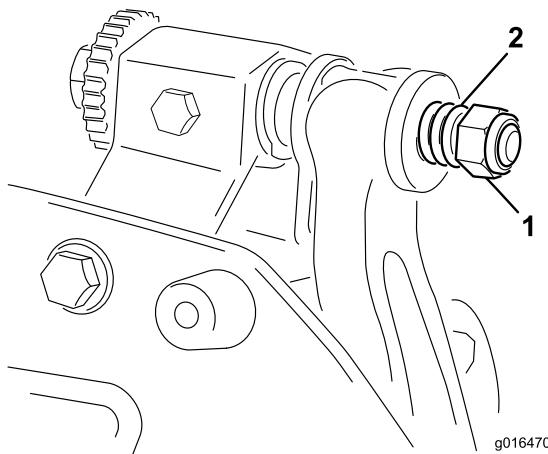

Figure 27
6. Tighten the spring tension nut until the spring is collapsed, then back it off 1/2 turn (Figure 27).